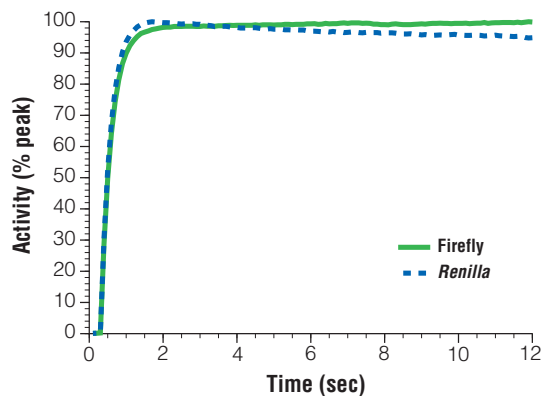

Figure 2. Luminescent signals generated in the Dual-Luciferase® Reporter 1000 Assay System by firefly and *Renilla* luciferases.
Many of our Luciferase Assay Reagents for quantitating firefly luciferase incorporate coenzyme A (CoA) to provide more favorable overall reaction kinetics (3). In the presence of CoA, the luciferase assay yields stabilized luminescence signals with significantly greater intensities (Figure 2) than those obtained from the conventional assay chemistry. The firefly luciferase assay is extremely sensitive and extends over a linear range covering at least seven orders of magnitude in enzyme concentration (Figure 3).
In the DLR™ Assay chemistry, the kinetics of the *Renilla* luciferase reaction provide a stabilized luminescent signal that decays slowly over the course of the measurement (Figure 2). Similar to firefly luciferase, the luminescent reaction catalyzed by *Renilla* luciferase also provides extreme sensitivity and a linear range generally extending over six orders of magnitude (Figure 3). Note that the effective range of the luminescent reactions may vary depending on the type of luminometer (e.g., 96-well vs. single-sample) used.